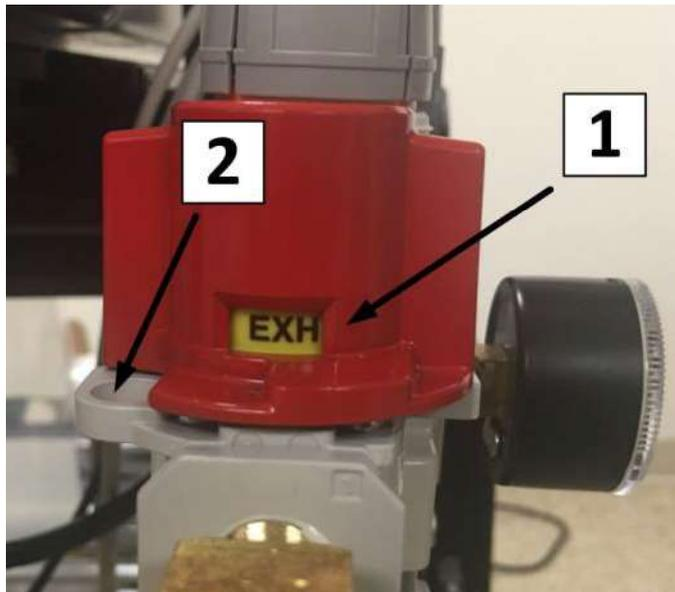

FIGURE 3-6. AIR LOCKOUT
1. Turn the air supply red knob clockwise until the air can be heard exhausting and EXH can be read in the knob wind (Figure 3-6, Item 1).
2. If the machine is to be locked out for maintenance, place a LOTO device in the location provided in the dumped position (Figure 3-6, Item 2).